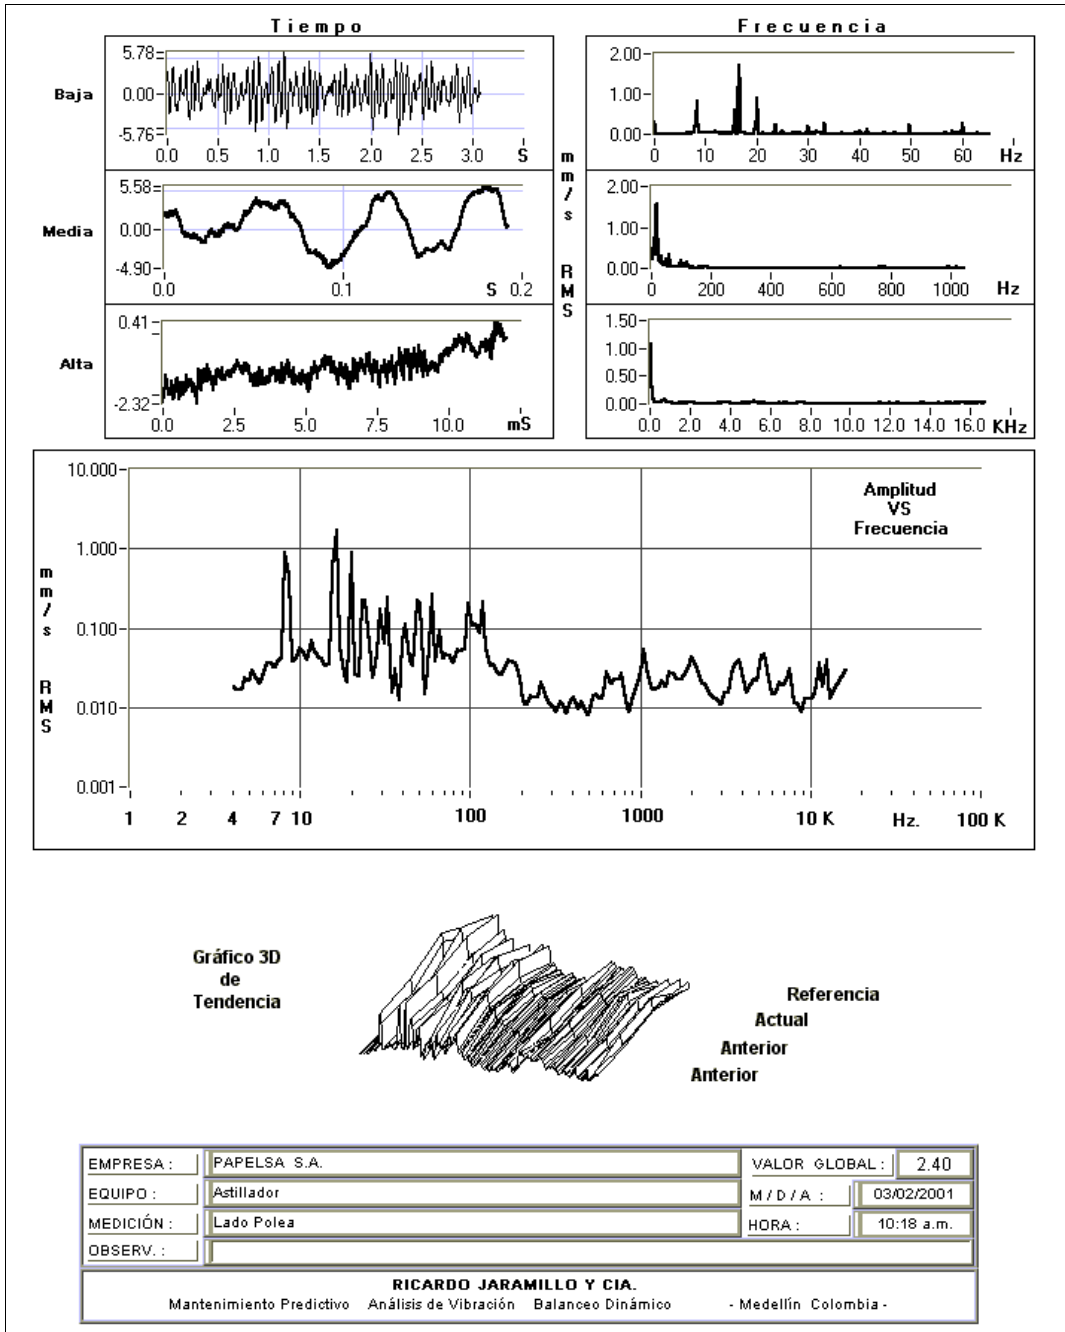

Figure 1: Report.
- 3D-tendency graph of the synthesized spectra (reference, today, and two previously filed spectra). See figure 1.